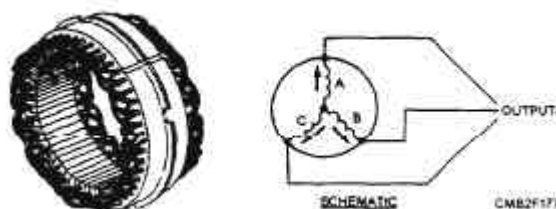

Figure 2-24.- Stator assembly.
**STATOR ASSEMBLY** (fig. 2-24).- The stator produces the electrical output of the alternator. The stator, which is part of the alternator frame when assembled, consists of three groups of windings or coils which produce three separate ac currents. This is known as three-phase output. One end of the windings is connected to the stator assembly and the other is connected to a rectifier assembly. The windings are wrapped around a soft laminated iron core that concentrates and strengthens the magnetic field around the stator windings. There are two types of stators- Y -type stator and delta-type stator.